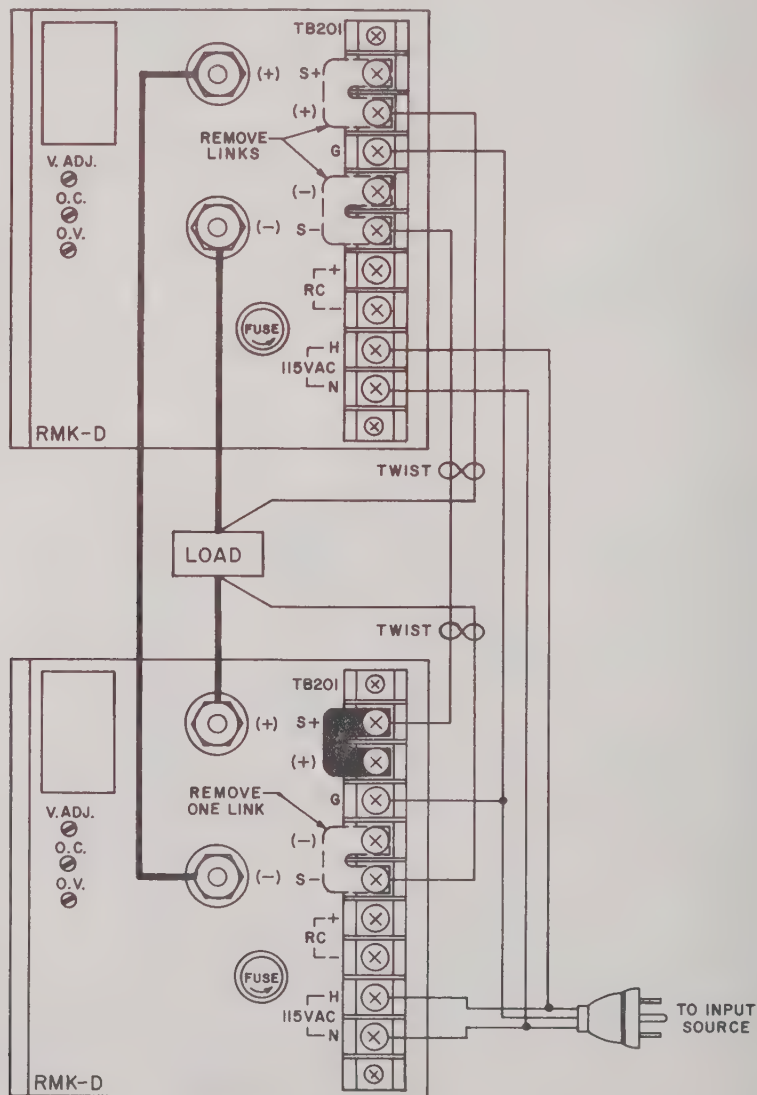

FIG. 3-4 SERIES CONNECTION OF TWO POWER SUPPLIES, WITH ERROR SENSING AT THE LOAD.
3-20 PROCEDURE (Refer to FIG. 3.4):
- STEP 1) Connect supplies and load as shown in FIG. 3.4. Keep voltage drop in load wires as low as possible by using proper gauge wire.